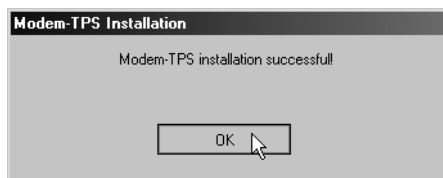

Figure 2-26. Modem-TPS Installation Complete
3. When the Modem-TPS installation completes, click **OK** to exit the installation wizard (Figure 2-26).